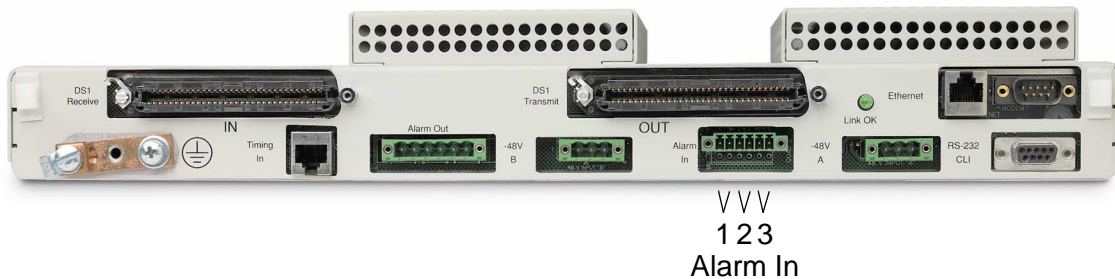

Figure 6-31. Location of Rear Panel Alarm Input Connector
- Momentarily short-circuit pins for each alarm input pair (1, 2, 3 in Figure 6-31) to simulate an alarm contact closure. See *Alarm Input Connections* on page 6-31.